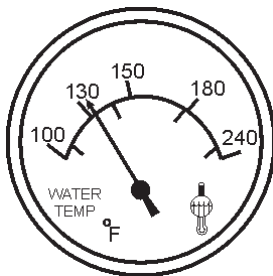

Figure 49. Coolant Temperature Gauge
9. The coolant temperature gauge (Figure 49) will indicate the coolant temperature. Under normal operating conditions the coolant temperature is between 165°~203° F. (74°~95° C).